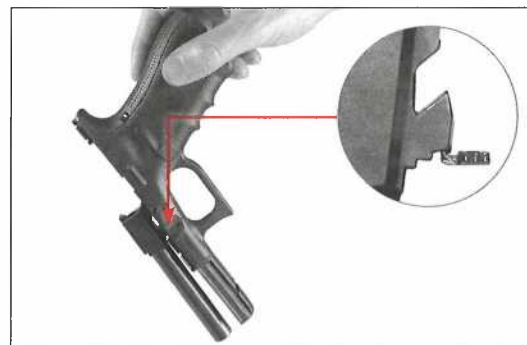

Fig. 96
- Use the barrel and hook it onto the slide lock. Hold the receiver above a soft surface. (Fig. 96)